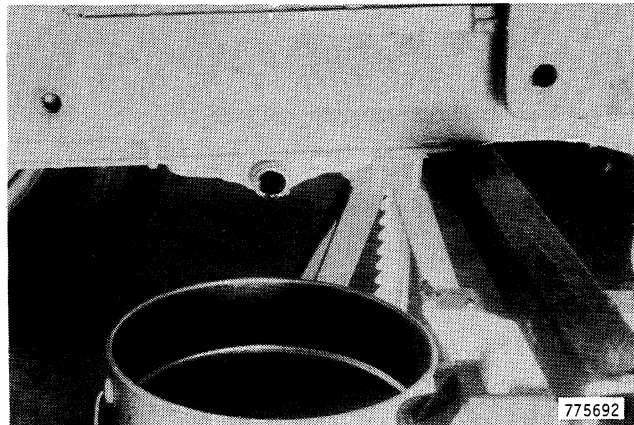

Figure 54
- 57. Drain the oil from the engine pan, Figure 54.